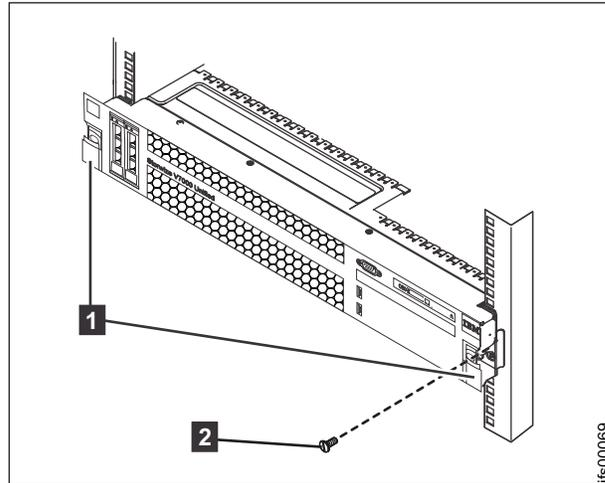

Figure 42. Installing the front screws
**Note:** When you move the rack cabinet, or if you install the rack cabinet in a vibration-prone area, insert the M6 screws **2** in the front of the file module. Refer to Figure 42 on page 51.